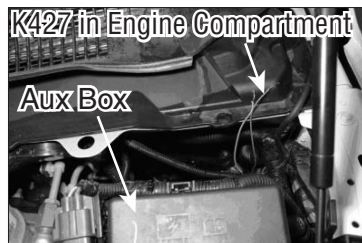

Fig. 3
3. Location of K427 Wire (**Fig 3**)